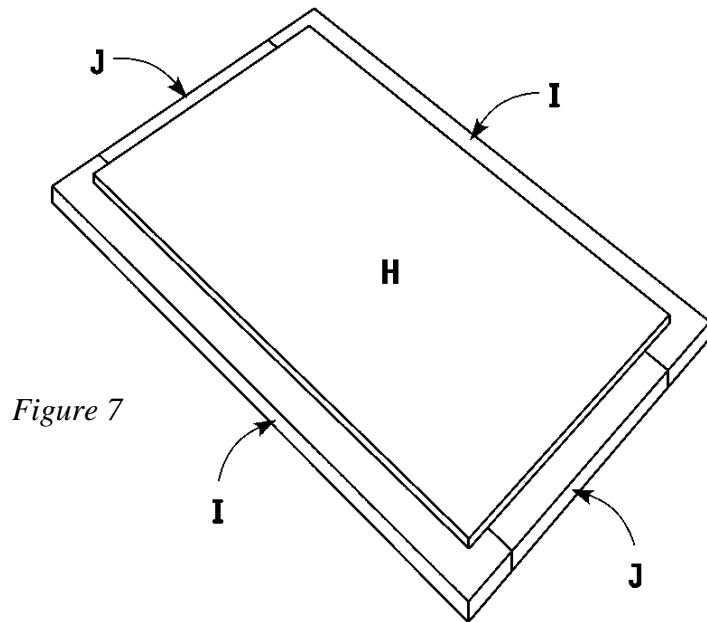

Figure 7
5. Center one Upper Panel (H) over the trims (I and J) as shown in *Figure 7*. Apply glue to the meeting surfaces, and screw through the Upper Panel (H) into horizontal and Vertical Trims (I and J) using 1" drywood screws spaced every
11. Center one Lower Panel (K) face down over the door trims (L and M), as you did for the Upper Trims (I and J). See *Figure 7*. Apply glue to the meeting surfaces and screw through the edges of the Lower Panel (K) into the Lower Vertical and Horizontal Trims (L and M) using 1" drywall screws spaced every 5 inches.